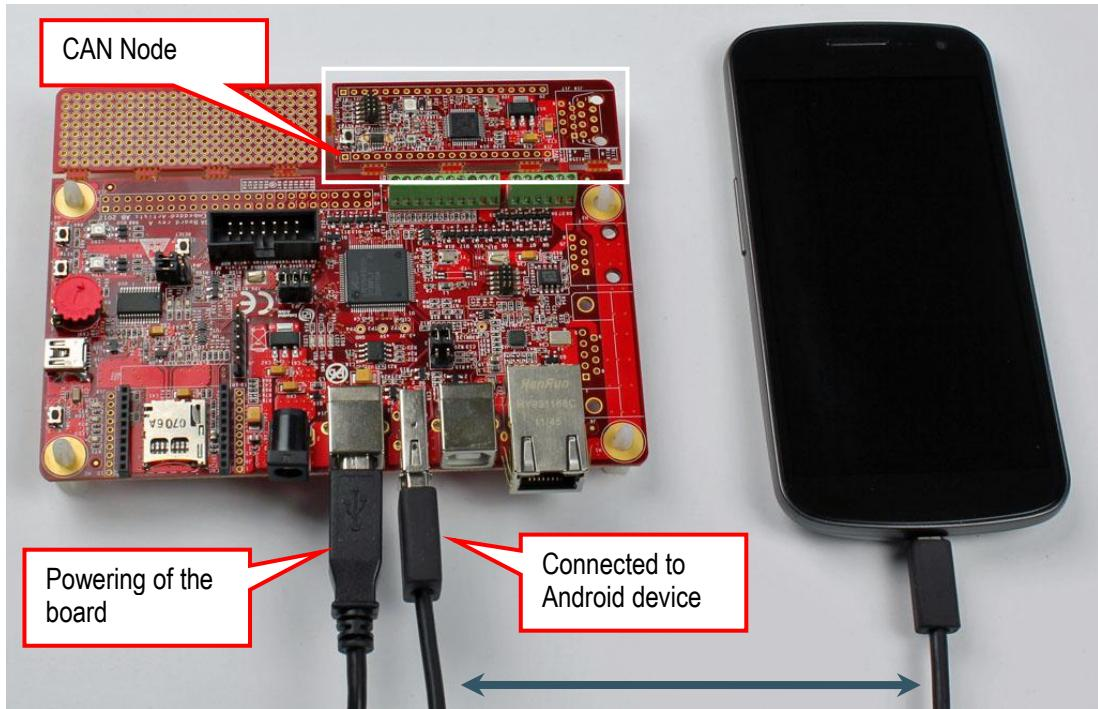

Figure 6 - AOAA Board: CAN Demo
- 3) Connect the Android device to the AOAA Board as shown in Figure 6.